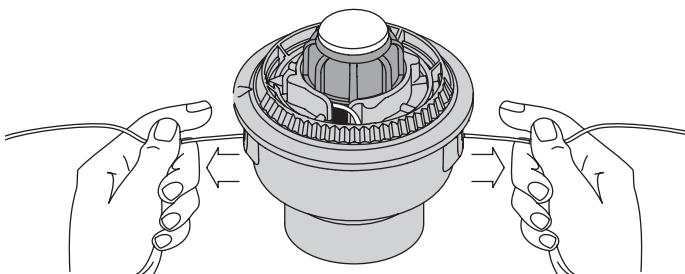

Fig. 22
9. If winding the line becomes difficult or if the line jams, pull the ends of the line from the spool (Fig. 22). Continue winding the inner reel counterclockwise.
If the SpeedSpool® does not release line correctly, pull the ends of the line firmly from the spool (Fig. 22). If this does not release the line, follow the *Cleaning the SpeedSpool®* instructions.